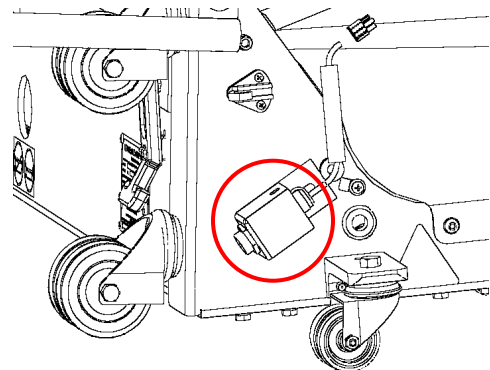

Figure 4-26
1. Locate the sensor on the bracket over the right rear caster wheel, as shown in Figure 4-26.
The sensor's sensitivity can also be adjusted. There is a small adjustment screw in the side of the sensor that controls the electronic circuitry within the sensor. This screw can be accessed through a slot in the side of the sensor bracket (see Figures 4-26 & 4-27.) Use a very small flat blade screwdriver to turn the screw counterclockwise to decrease sensitivity or clockwise to increase sensitivity. Make small adjustments, and only use this method if the previous steps do not give the desired result.